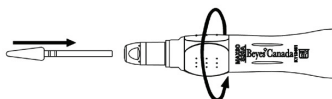

Fig.2
1. Open collet by turning grip 1/4 turn (clockwise) as shown in Fig 2. You will feel a “click” indicating the collet is open. The gap between the grip and handpiece retainer will narrow when the collet is open.